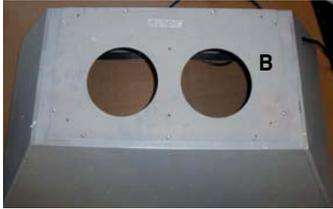

FIGURE 7
1. Install the Duct Plate **B** (Figure 7) which came with the internal blower kit, on top of the rangehood with the holes located closer to the front. Use 9 screws supplied with the blower kit.